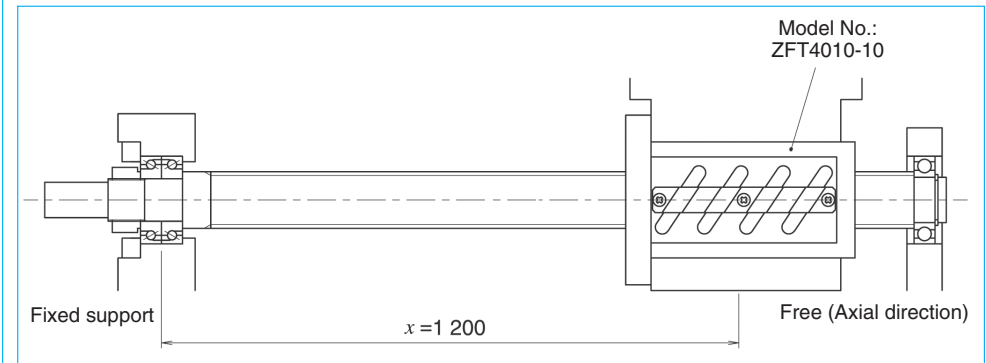

Fig. 6.6 Example calculation for axial rigidity of screw shaft (1)
Obtain axial rigidity of the screw shaft under the conditions in Fig. 6.6.
- From Fig. 6.6: Support configuration